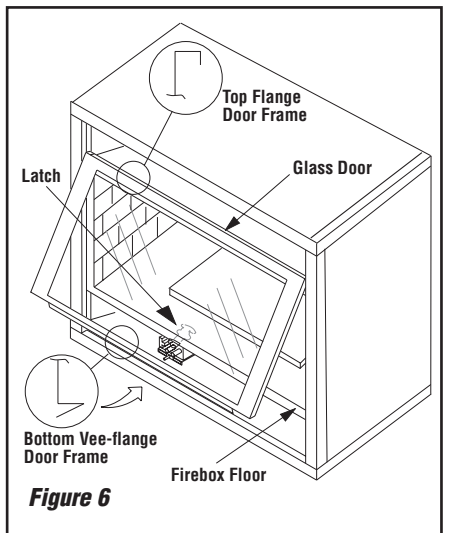

Figure 6
- 1 - Lower the bottom control compartment access panel. Remove the glass enclosure panel: open the latch (located in the center of the unit front opening, under the firebox floor) securing the glass enclosure panel. Remove the panel by tilting it outward at the bottom and lifting it up. Set the door aside protecting it from inadvertent damage. See **Figure 6 on Page 7**.
Refer to *Figure 6* and remove the front glass enclosure panel as follows: